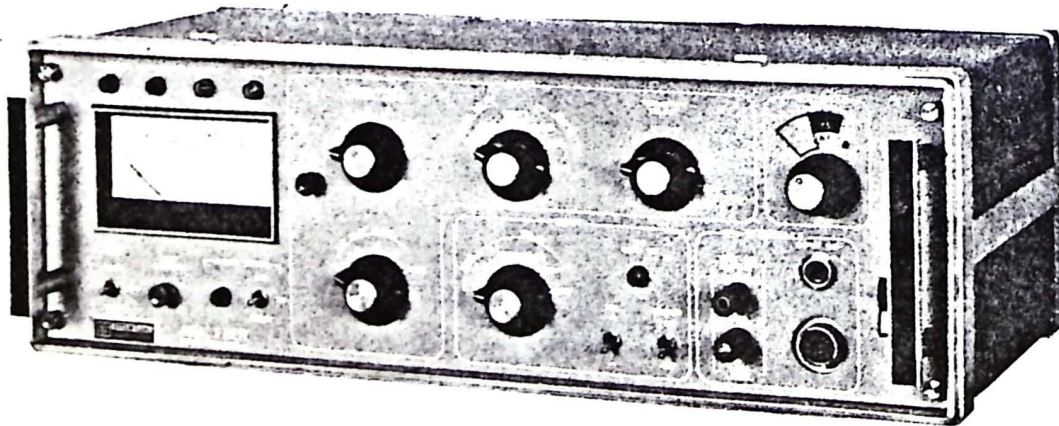

Fig. 1 - Front View - DMS-303A Analyzer
1.01 This manual describes installation, operation, theory, and maintenance of the DMS-303A Analyzer (Fig. 1). A complete listing of replaceable parts and complete schematic coverage are provided at the end of the manual.
1.06 The Analyzer (Fig. 1 and 2) consists essentially of a chassis housed in an optional portable metal case with removable front and rear covers. The front cover stores the power cord and an optional Data Set Interface Adapter Cable. The chassis mounts nine plug-in PC-cards, one PC-card service extender, two power transformers, a filter capacitor, and front and rear control panels. Frequently used controls and the Data Set Interface connector are accessible on the front panel. Less frequently used controls and accessory connectors are accessible behind the door in the rear cover. Internal adjustments are located on the exposed edge of PC-card A2 directly in front of the removable rear cover.